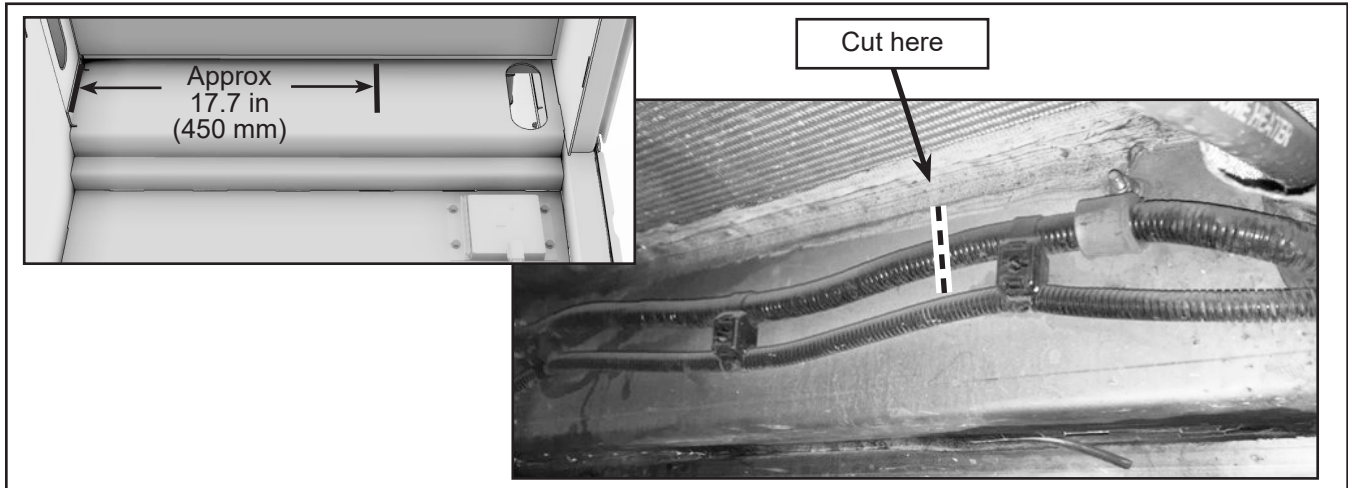

Figure 3 - Cut WHA 64 (Typical Installation)
- 1.9. From the left side, cut all wires of the breakout of the harness 64 **approximately** at the dimension shown in Figure 3.